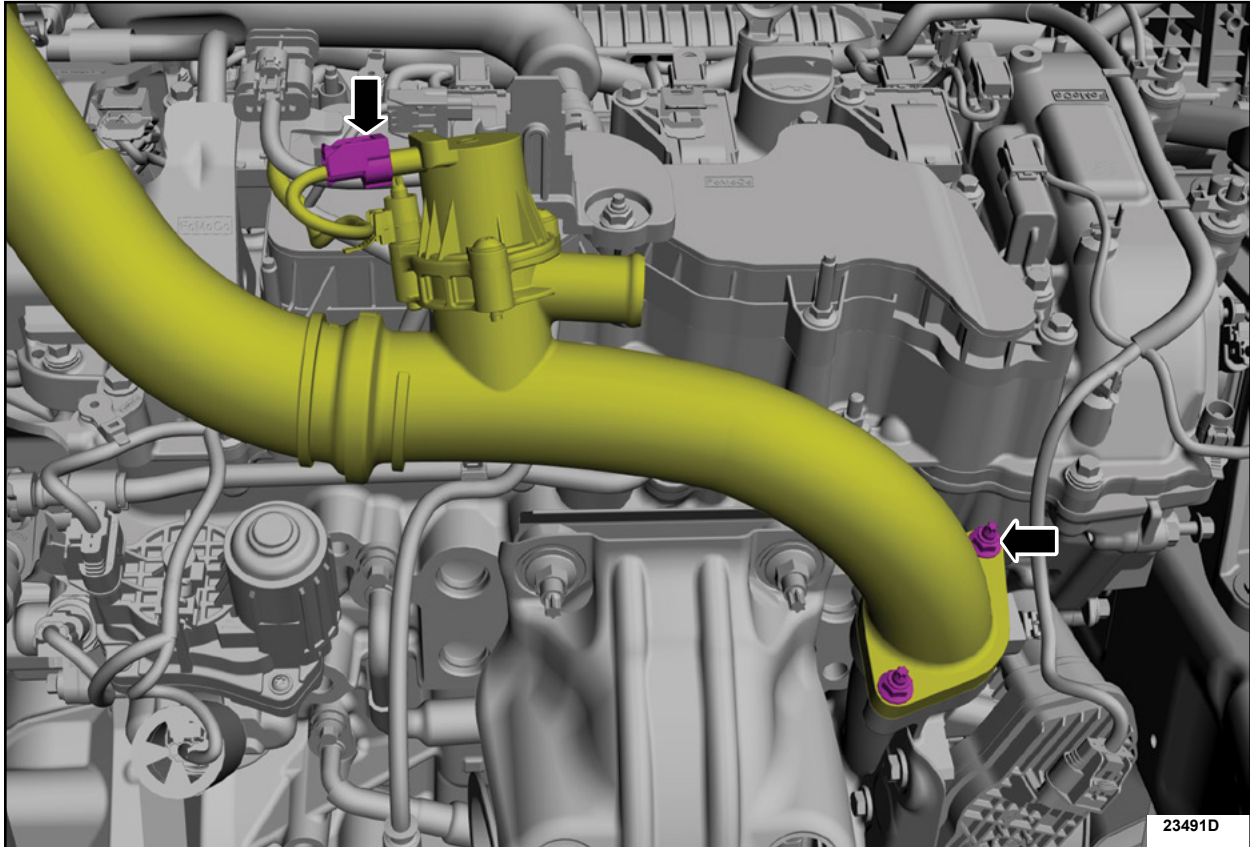

FIGURE 3
6. Remove Charge Air Cooler (CAC) intake tube nuts. See Figure 3.
7. Disconnect the electrical connector and position aside the wiring harness. See Figure 3.